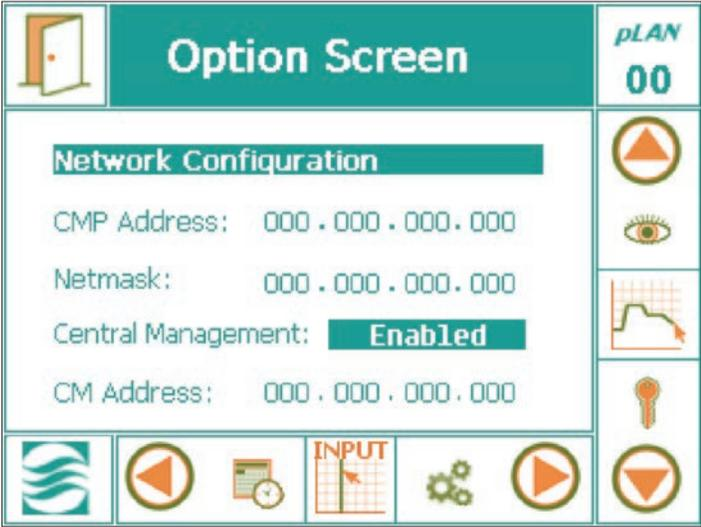

Figure 6.10: Network Configuration
- From the status screen, touch the 'ID' button  to access the network configuration, (Figure 6.10: Network Configuration)